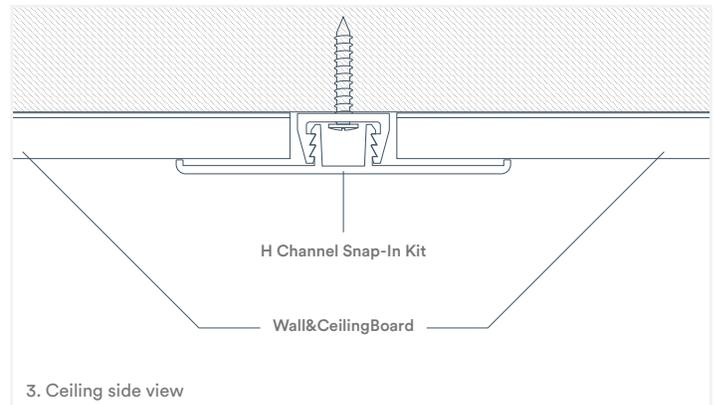

Fig. 7
3. If your ceiling is longer than your panel lengths, the panels must be joined in the middle using the H Channel Snap-In Kit (Fig 7). Refer to the Joining Panels portion of the Trim Applications section of this document for details.